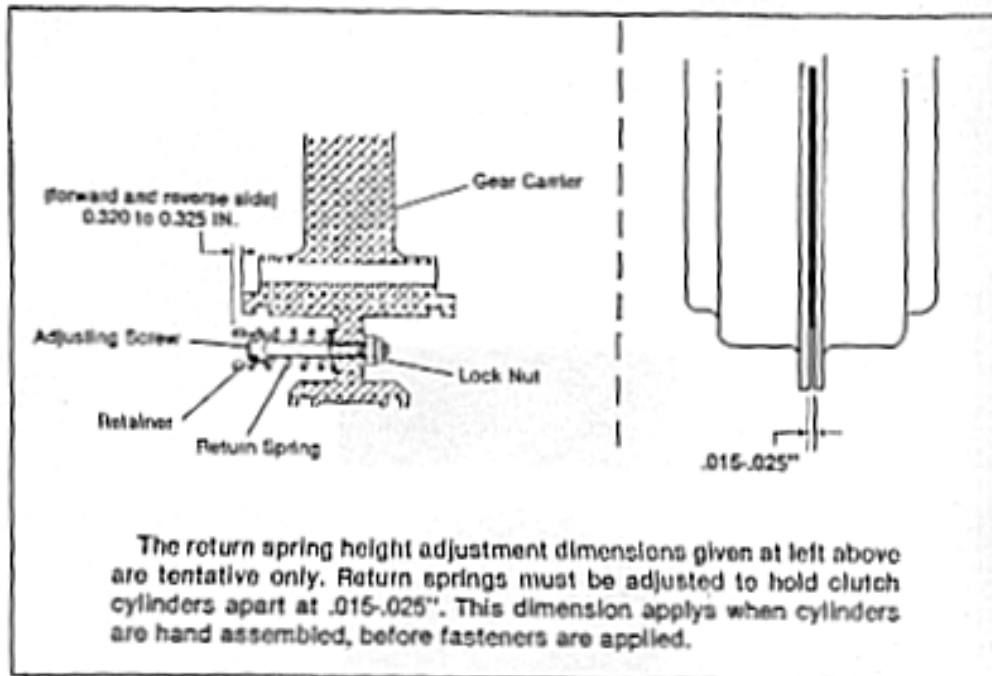

Figure 21. Clutch Return Spring Height Adjustment
3. Replacement of return springs and retainers (if necessary): insert return spring retainers into return springs and secure in gear carrier using capscrews. Tighten capscrews tentatively until top of spring retainer protrudes the specified distance from the face of the bevel gear carrier hub as shown in figure 21.
4. Without installing quad rings, place cylinders on bevel gear carrier by hand. (See fig.21) above. There must be a uniform gap between cylinders of .015 to .025". Check with a feeler gauge. If necessary, readjust return spring height and install locknuts.